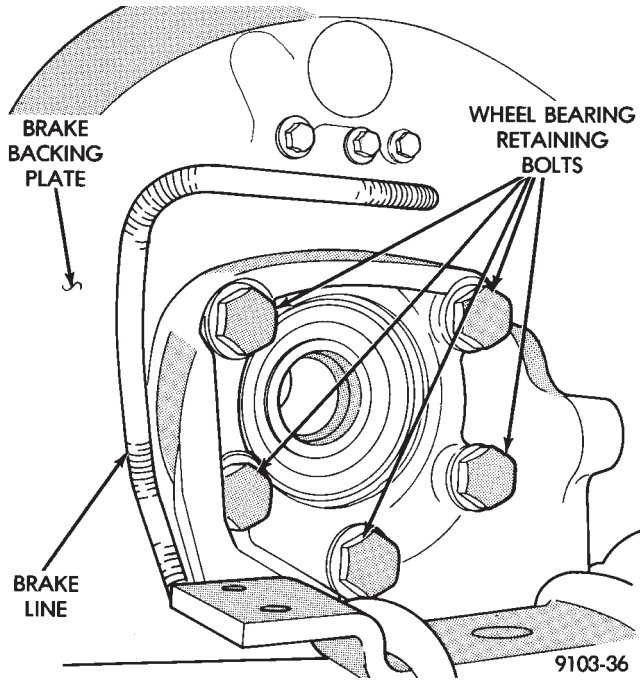

Fig. 5 Wheel Bearing Mounting Bolts
- (7) Remove wheel bearing mounting bolts (Fig 5).